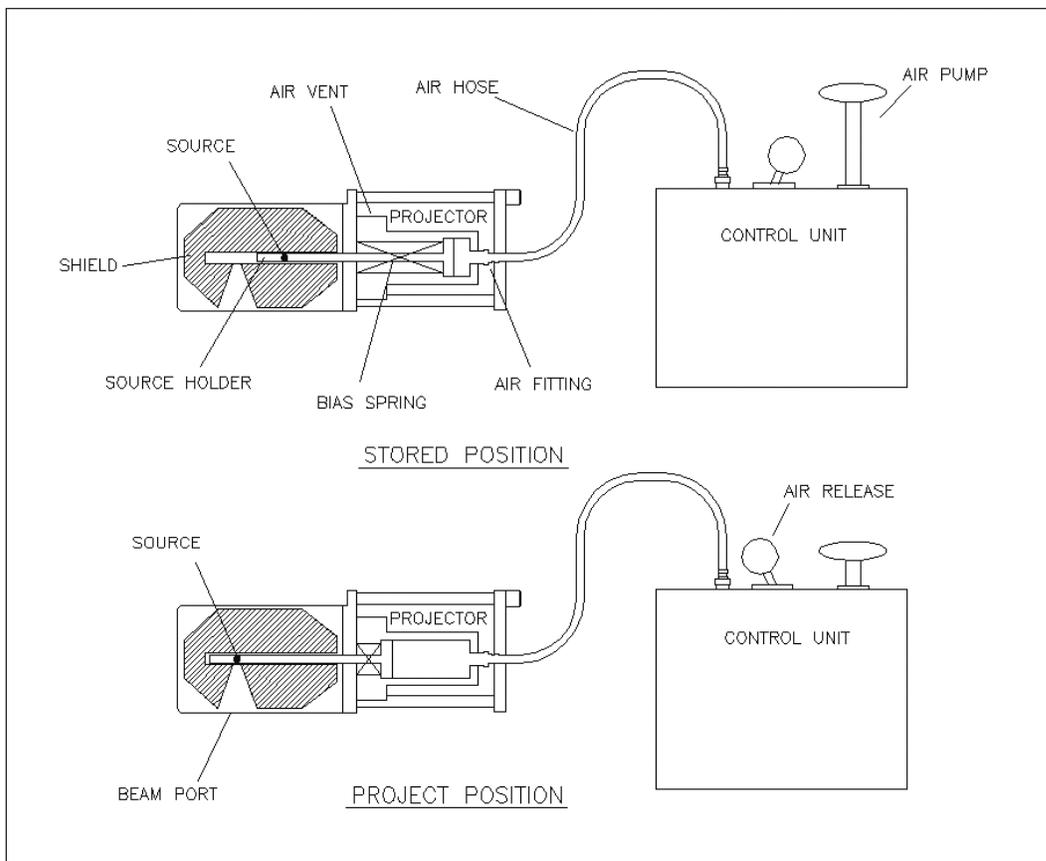

Figure 3 – SENTINEL™ 959M SCAR Principles of Operation
3. Using the handle, increase pressure at the control unit until 25-30 psi is reached. Move the toggle switch to the "Expose" position to make the radiographic exposure. Increase pressure to ensure that 25-30 psi is maintained during the radiographic exposure (see Figure 3).